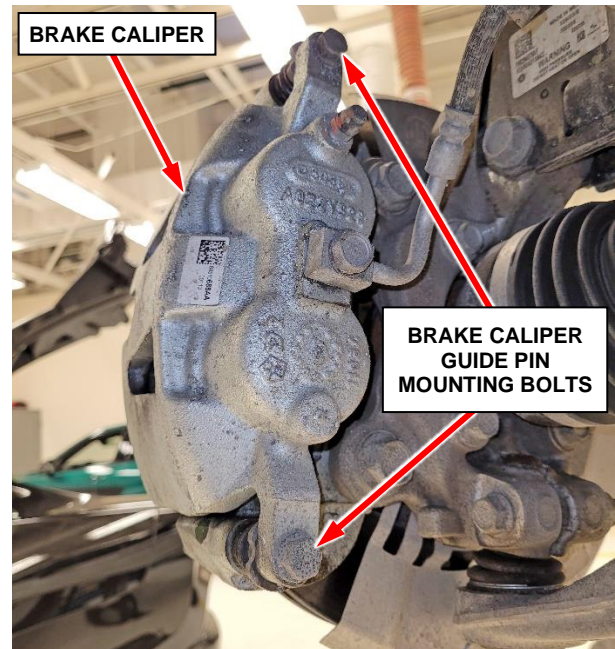

Figure 1 – Front Brake Caliper
3. Remove the brake caliper guide pin mounting bolts (Figure 1).
15. Carefully install the brake caliper to the brake caliper adapter bracket, taking care not to twist or over-extend the brake hose. Then install and tighten the brake caliper guide pin mounting bolts to 37 N·m (27 ft. lbs.) (Figure 1).